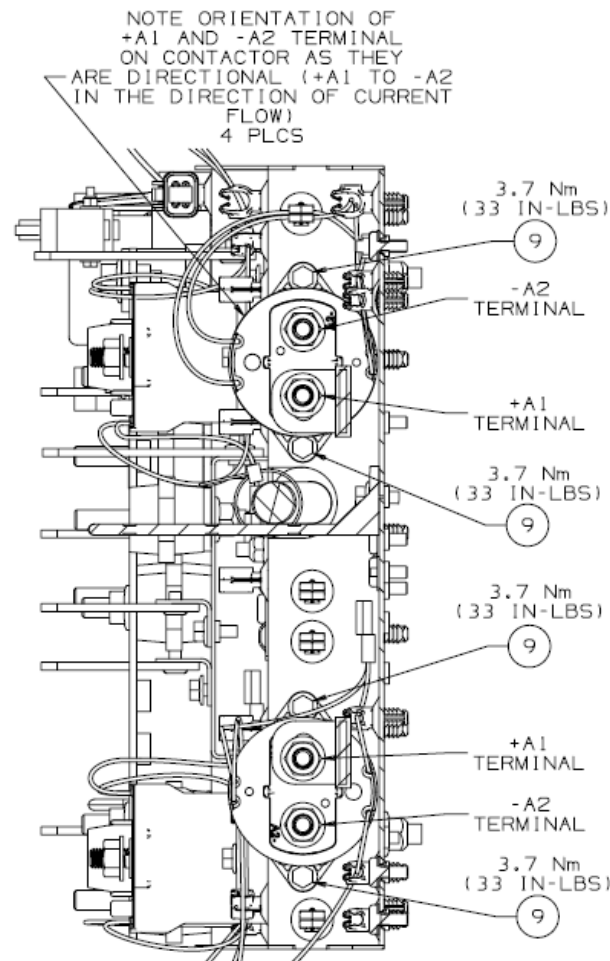

Fig 4: Negative DC Contactor terminal orientation
11. Re-install the contactor so that its A1+ terminal is at the top while A2- terminal is below (see fig 4) and refasten the contactor to the Fuse Box chassis using the M5-0.80 bolts with a torque of 3.7 Nm.